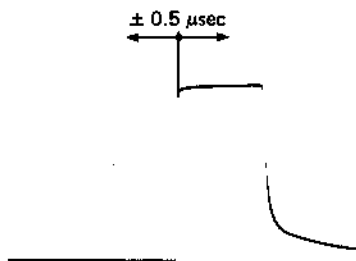

Fig. 5-13 H. discriminator
5. In the shuttle search FF mode, adjust R107 to position the front porch of the H sync waveform at point A (within  $\pm 0.5 \mu\text{sec}$ ). See Fig. 5-13.